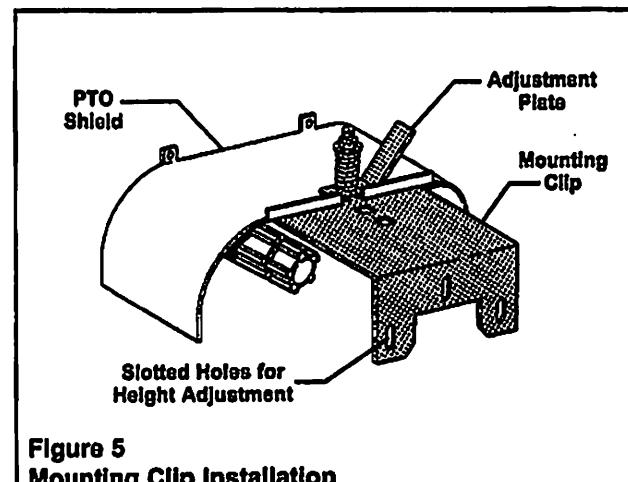

Figure 5
1. When mounting the Mounting Clip to the PTO shield, make sure the shield is not bent down. This will cause an additional burden on the Pump Bearings. It may be necessary to bend the shield back to its original position (or higher) to allow the Mounting Clip to slide under the shield as shown in Figure 5.
It will be necessary to drill a 5/16" center hole in all flat surface shields to properly secure the Mounting Clip to the PTO shield (See Figure 5).